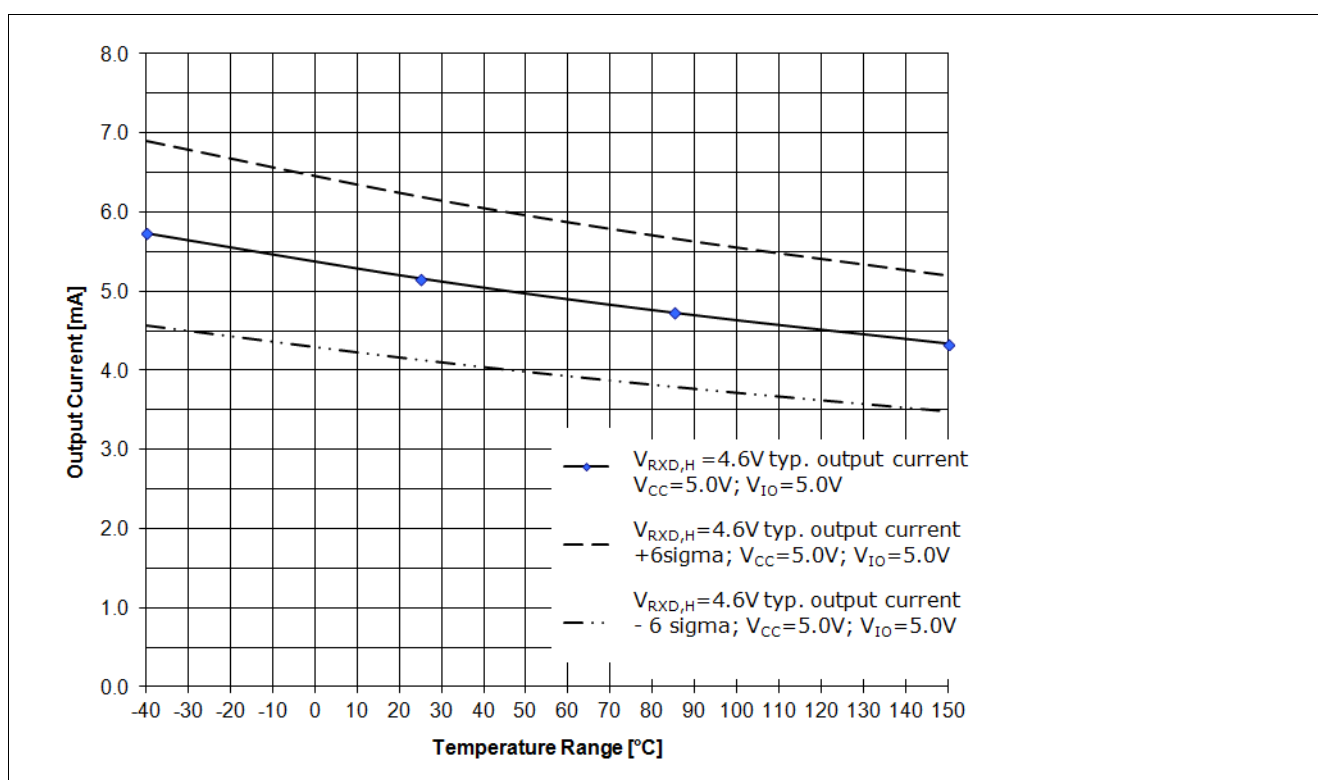
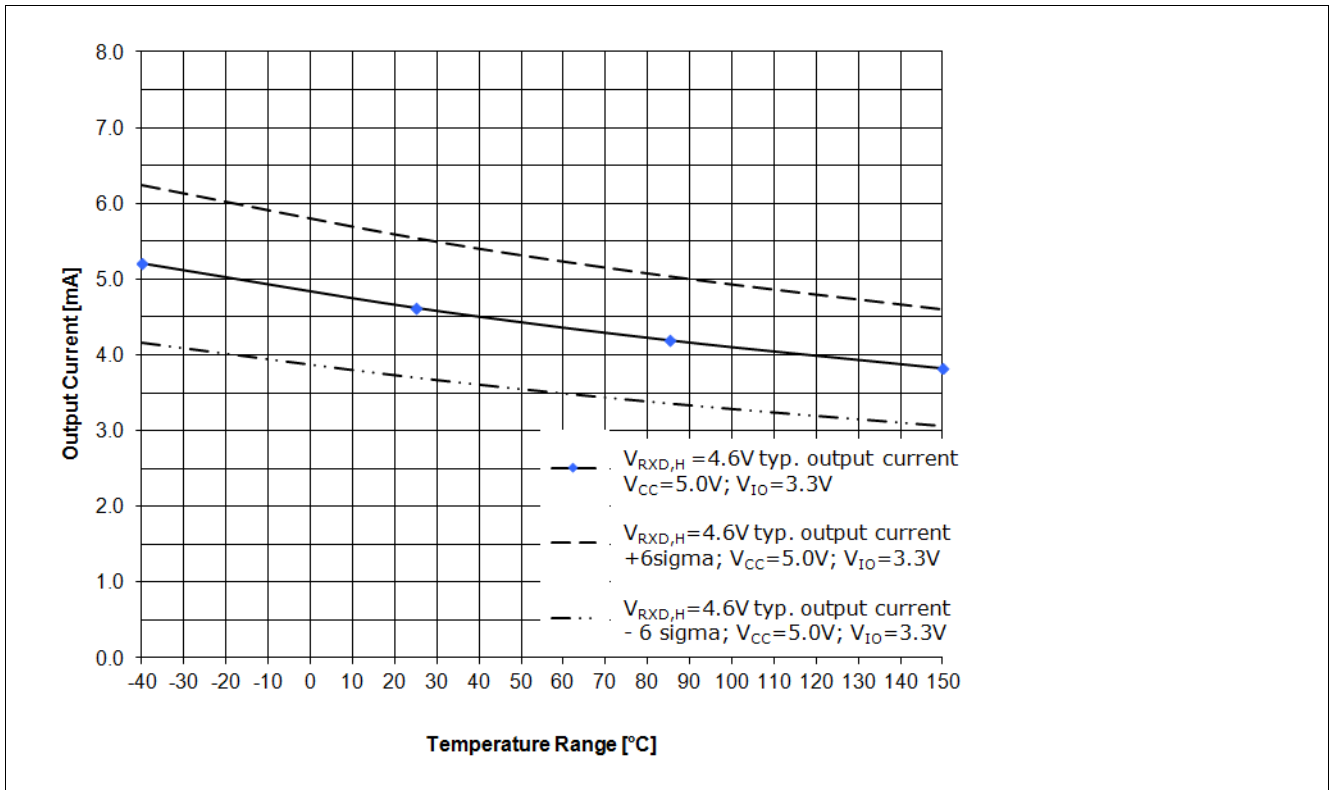

Figure 11 RxD Output driver capability for a logical “High” signal $V_{RxD,H}=4.6\text{ V}$, $V_{CC}=5.0\text{ V}$, $V_{IO}=5.0\text{ V}$ ¹⁾
Figure 12 RxD Output driver capability for a logical “High” signal $V_{RxD,H}=4.6\text{ V}$, $V_{CC}=5.0\text{ V}$, $V_{IO}=3.3\text{ V}$ ¹⁾
The diagram in Figure 11 shows the output current capability of the RxD output pin depended on the chip temperature T_J at a V_{IO} power supply of 5.0 V. Figure 12 shows the output current capability of the RxD output pin at a V_{IO} power supply of 3.3 V.
- The curve “VRxD,H = 4.6 V; typ. output current; VCC = 5.0 V; VIO =5.0 V;” displays the typical output current at the RxD output pin of the TLE8250GVIO (see Figure 11).
- The curve “VRxD,H = 4.6 V; typ. output current + 6 sigma; VCC = 5.0 V; VIO =5.0 V;” displays the expected maximum value of the output current at the RxD output pin (see Figure 11).
- The curve “VRxD,H = 4.6 V; typ. output current - 6 sigma; VCC = 5.0 V; VIO =5.0 V;” displays the expected minimum value of the output current at the RxD output pin (see Figure 11).
- The curve “VRxD,H = 4.6 V; typ. output current; VCC = 5.0 V; VIO =3.3 V;” displays the typical output current at the RxD output pin of the TLE8250GVIO (see Figure 12).
- The curve “VRxD,H = 4.6 V; typ. output current + 6 sigma; VCC = 5.0 V; VIO =3.3 V;” displays the expected maximum value of the output current at the RxD output pin (see Figure 12).
- The curve “VRxD,H = 4.6 V; typ. output current - 6 sigma; VCC = 5.0 V; VIO =3.3 V;” displays the expected minimum value of the output current at the RxD output pin (see Figure 12).